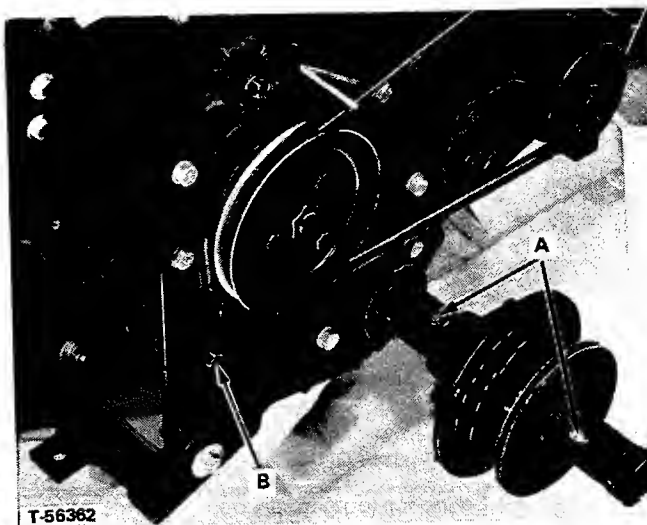

FIGURE 6 - Grease Fittings
- d. Two fittings on the right hand rear axle (Figure 6);